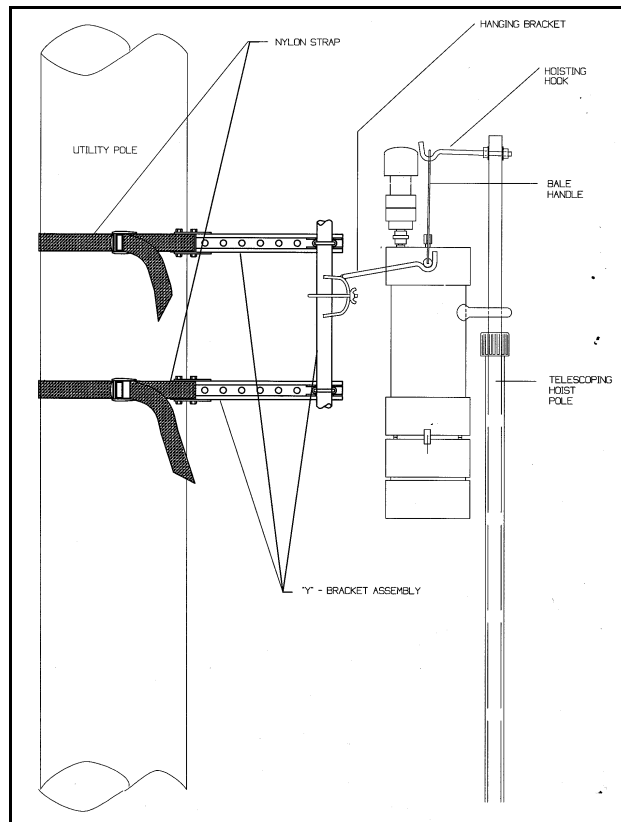

Figure 4.1. Mounted Sampler
The MiniVol Mounting Cradle is designed to mount onto a standard 1 1/4 inch antenna mast or comparable metal tubing (not supplied with the sampler). The mast should be strapped securely to some other suitable structure—utility pole, parking meter, fence post, *etc.* (See Figure 4.1). Available separately from Airmetrics is a Y-Bracket Assembly which attaches to poles and provides a mast for the mounting cradle. (Also shown in Figure 4.1).
12. Using the hoisting pole, hook the bale assembly bar and raise the sampler, as vertically as possible, to the mounting cradle. This position not only more easily accommodates the sampler's weight, but prevents the hook from hitting and possibly dislodging or breaking the preseparator/filter holder assembly. (See Figure 4.1).
1. Remove the sampler from the mounting cradle using the hoisting pole. Position yourself directly under the sampler, hook the bale assembly bar, and lower the sampler as vertically as possible. This vertical take-away not only accommodates the sampler's weight, but prevents the hook from dislodging the rain cap or damaging the preseparator/filter holder assembly (see Figure 4.1).